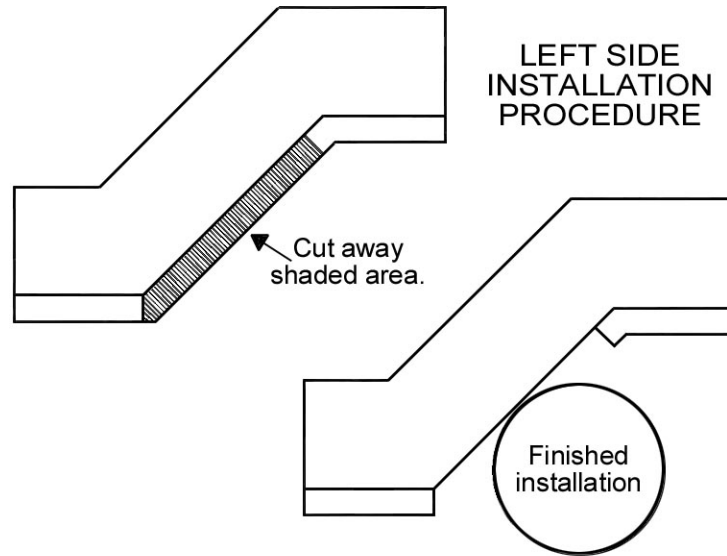

Figure 1
3. With a friend holding the header in place, mark the pinch-weld seam area (weld bead) on the frame, just behind the left lower control arm. **See Figure 1.**